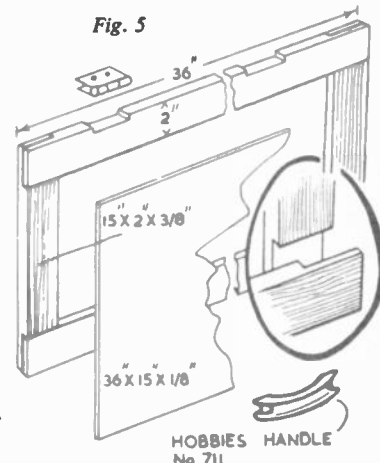
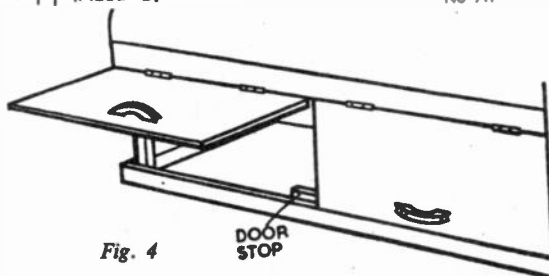

Fig. 5
Fig. 4
The doors are hinged to piece (A) as seen in Fig. 4. Note that a stop should be provided to prevent the doors from straining the hinges. A detailed sketch of the door construction is given in Fig. 5. It consists of a framework of 2ins. by $\frac{1}{4}$ in. wood halved together at the corners as indicated by the inset diagram. Each door is covered with $\frac{1}{4}$ in. hardboard as indicated. The hinges are recessed for flush fitting and each door can be provided with a ball catch and a Hobbies No. 711 handle as illustrated. The cost of handles is 1/- per pair and $\frac{1}{4}$ in. ball catches 4d. each.